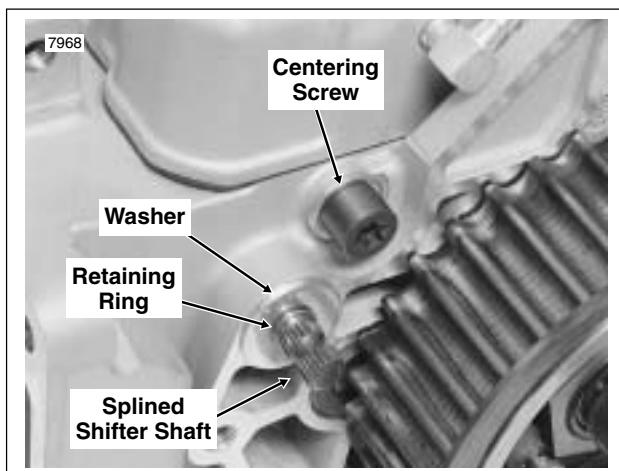

Figure 7-42. Shifter Pawl Centering Screw
4. Remove the socket screw from the shifter lever. Remove the lever from the splined end of the shifter shaft. Mark splines on shaft and lever as they are removed to assist in assembly. See Figure 7-42.